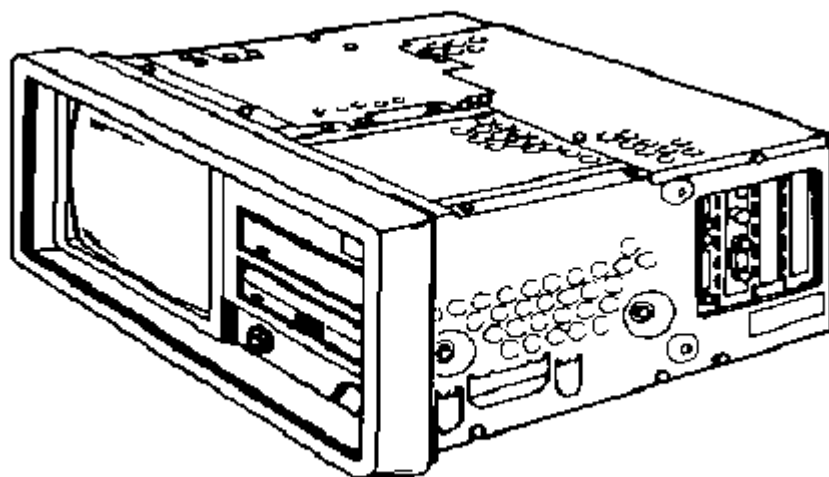

Figure 7-64. Returning the Computer to a Flat Position on the Work Surface
3. Lower the computer so that it appears as illustrated Figure 7-64.